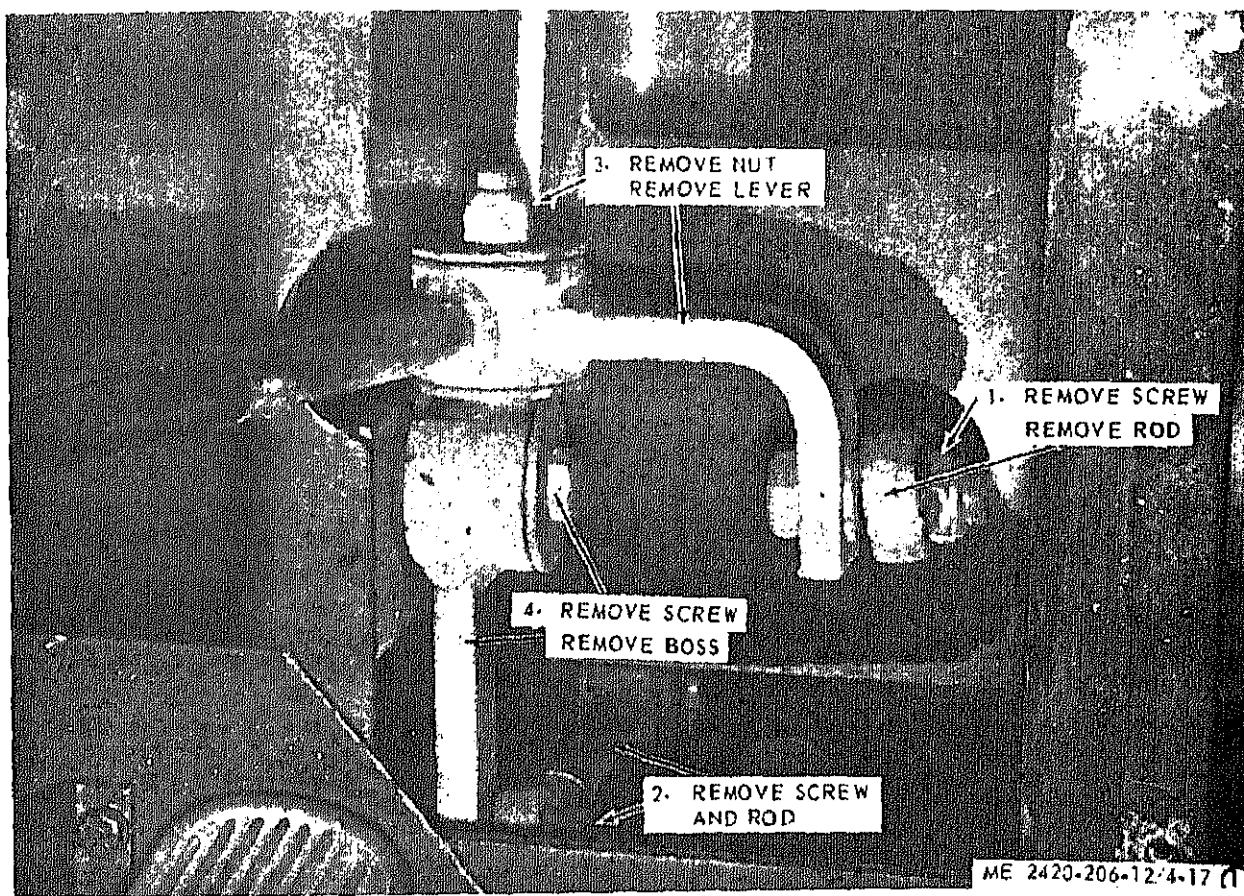

Figure 4-17. Bulldozer control lever, removal, disassembly, reassembly and installation (sheet 1 of 2).
- (2) Remove and disassemble bulldozer control levers as illustrated in figure 4-17.
- (1) Reassemble and install bulldozer control levers as illustrated in figure 4-17.
(2) Adjustment.